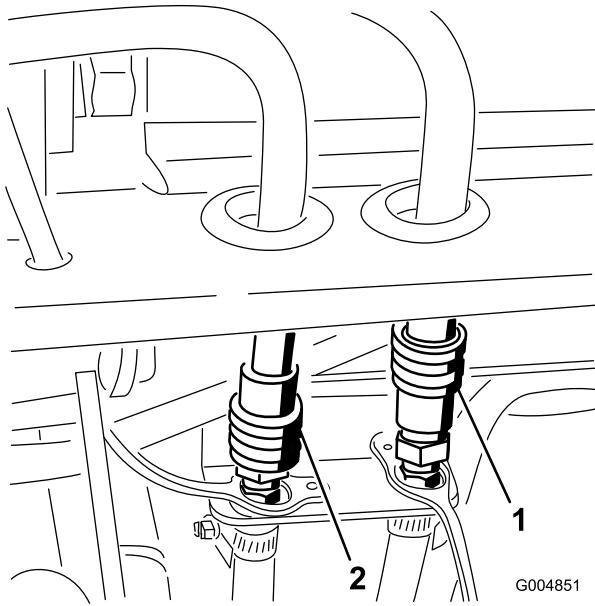

Figure 35
26. Connect the cab pressure and return hoses to the quick couplers on the rear frame mount (Figure 35).